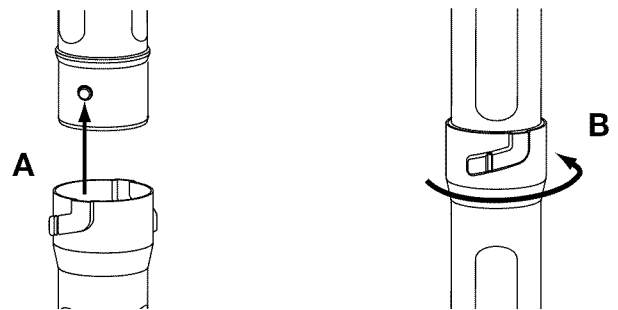

Fig. 4
4. Align the bump slot on the end of the second lower blower tube with the bump on the bottom end of the first lower blower tube (Fig. 4, A).
5. Insert the bump on the first lower blower tube into the bump slot on the second lower blower tube (Fig. 4, A).
6. Twist the second lower blower tube as shown around the first lower blower tube until the second lower blower tube bump locks into place (Fig. 4, B).